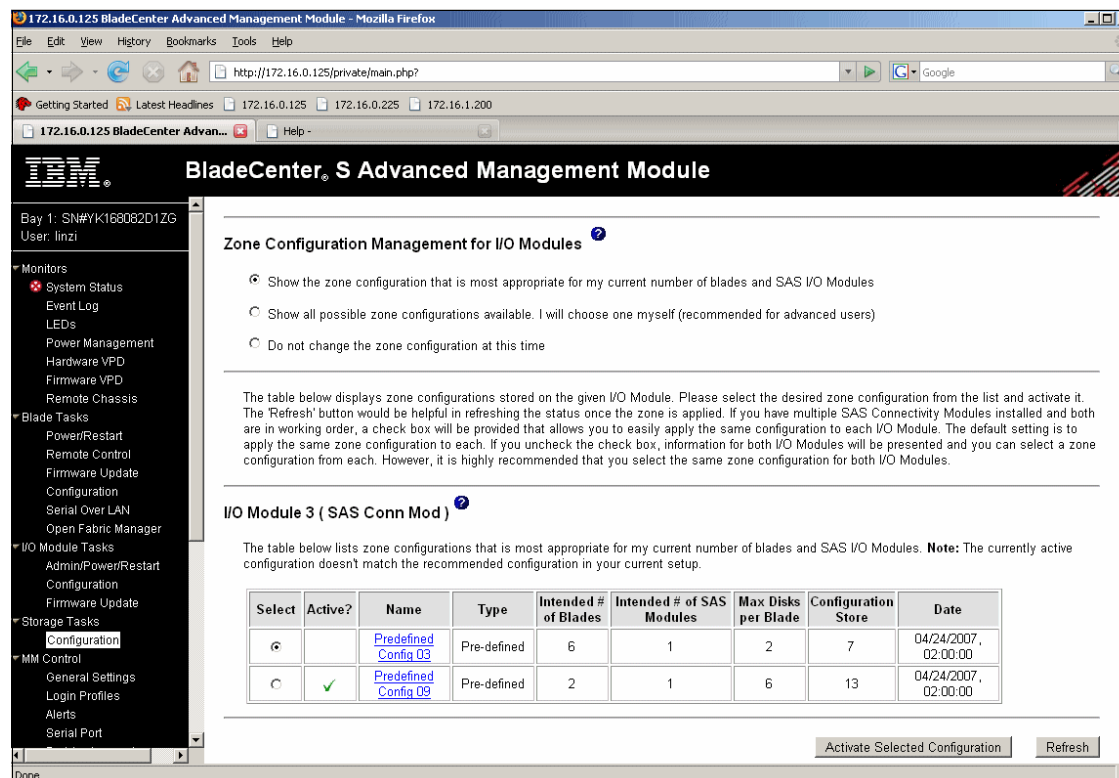

Figure 7-8 AMM SAS configuration zone
- To verify the configuration in the SAS module configuration menus, logon to the IBM BladeCenter Advanced Management Module. Under Storage Tasks, select **Configuration** as shown in Figure 7-8 on page 258.